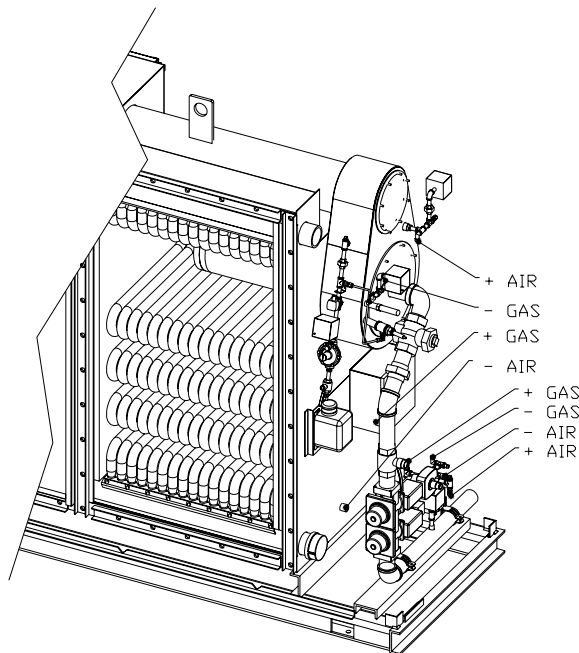

Figure 39 Air / Gas Ratio Tappings
The regulating gas valve is a 1:1 differential pressure air / gas ratio controller. This means that the control adjusts the same pressure difference on the gas side as it senses on the airside. The airside pressure is the difference between the pressure in the burner housing and the pressure downstream of the furnace section. The gas side pressure is the difference between the pressure upstream and downstream of the gas limiting orifice valve. For the locations of the +/- gas and air connections see (Figure 39). Air to gas ratios are adjusted with the gas limiting orifice valve (Figure 7 item 26).